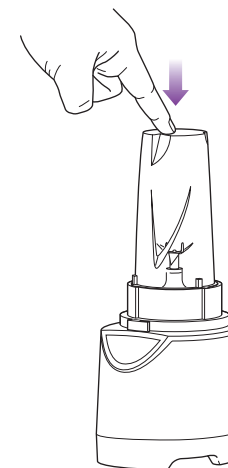

Fig. 3
- 5 Press down on the top of the cup in short intervals to activate. (Fig. 3)
bowl aligning the arrow (▼) located on the lid with the arrow (▲) located on the bowl's handle. (Fig. 3)